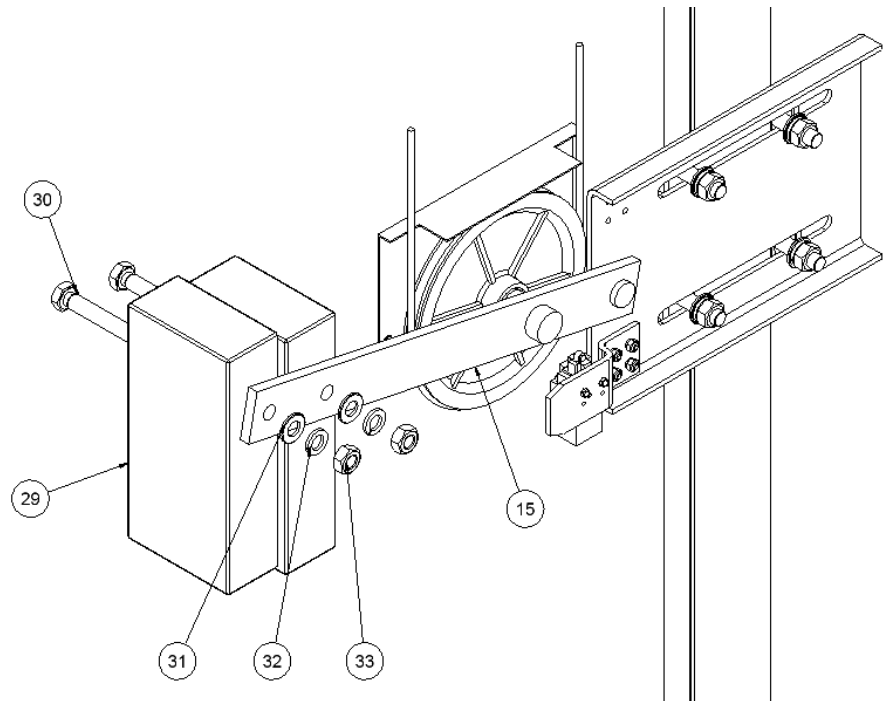

Figure 7
8. ASSEMBLY OF THE WEIGHTS IN THE TENSION PULLEY: The weights (29) will have to be joined in the position as it shown in the figure 7. Use two screws DIN 931 M14x80 (30). Fix them with two Grower washers DIN 127 M14 (32), two washers DIN 125 M14 (31) and two nuts DIN 934 M14 (33).